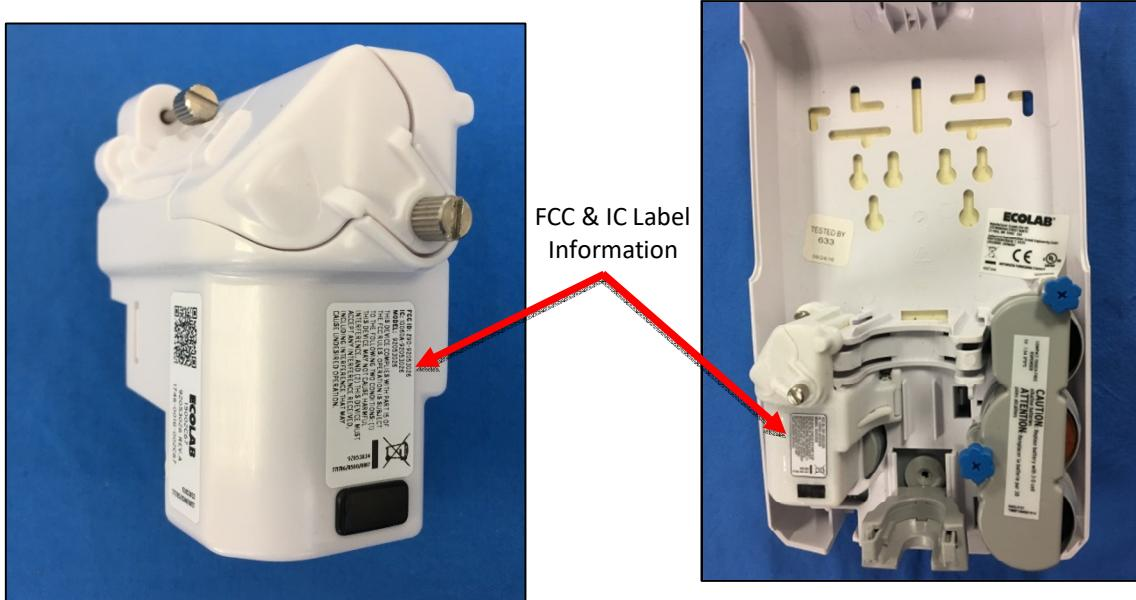

Figure 4. FCC & IC Label Information
(1) THIS DEVICE MAY NOT CAUSE HARMFUL INTERFERENCE, AND (2) THIS DEVICE MUST ACCEPT ANY INTERFERENCE RECEIVED, INCLUDING INTERFERENCE THAT MAY CAUSE UNDESIRED OPERATION." is located on the front portion of the module (See Figure 4).